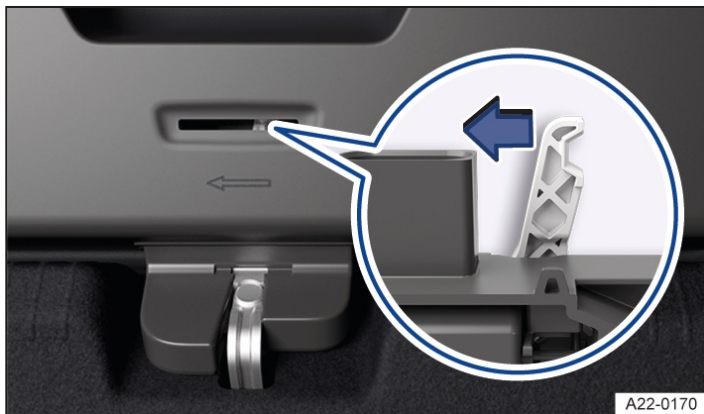

Fig. 1 In the luggage compartment: service opening in the boot lid.
1. Insert a suitable object into the service opening in the boot lid and press the release lever in the direction of the arrow → *Fig. 1*.